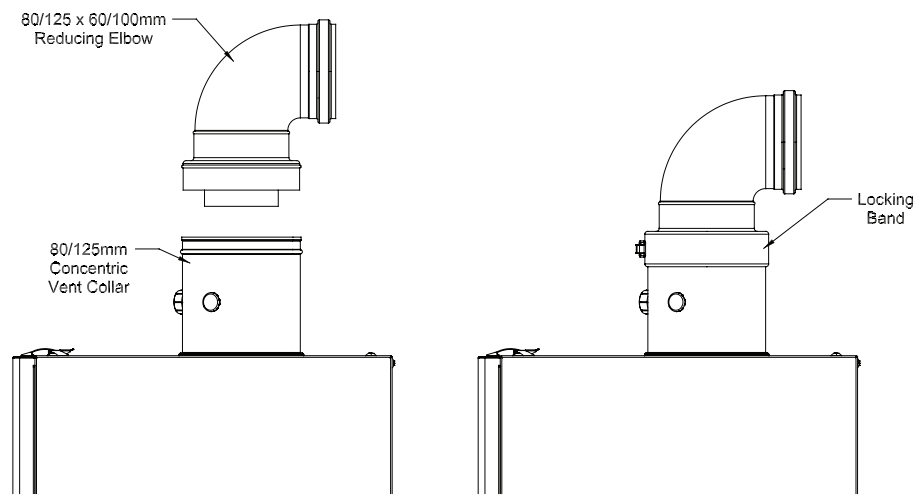
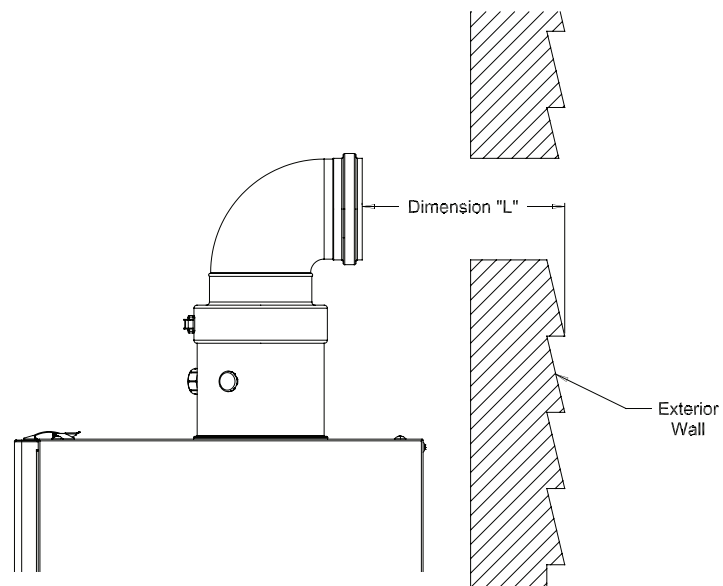

FIGURE 7.20: INSTALLATION OF REDUCING ELBOW ON CONCENTRIC BOILER COLLAR
FIGURE 7.21: DIMENSION "L"
- c) Two (2) Rubber wall grommets (Crown PN 230522).
- 2) Unless the 80/125 straight riser (PN 230515) is used, start by attaching the reducing elbow to the boiler collar. To do so, remove the clamp from the large end of the reducing elbow and set aside. Apply a small amount of water to the brown gasket on the boiler collar. Push the elbow onto the boiler collar until the bead on the elbow contacts the top edge of the collar (Figure 7.20).
- 3) Reinstall the clamp removed in Step (2) so that the elbow is secured to the boiler collar.
- a) Measure distance "L" from the outside surface of the exterior wall to the end of the elbow as shown in Figure 7.21.